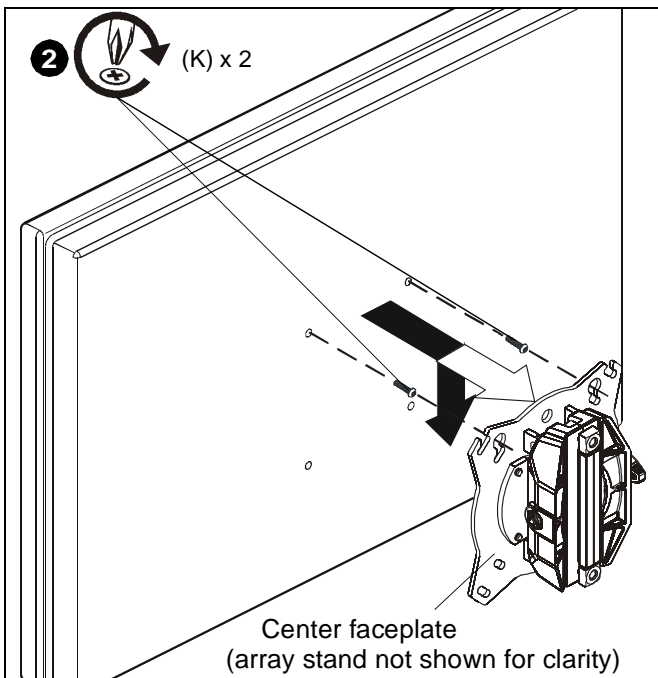

Figure 5
2. Using Phillips screwdriver, carefully install two M4 x 12mm Phillips pan machine screws (K) into the *upper* mounting holes on the display. Thread screws completely into display, then back out 3 complete turns. (See Figure 5)
3. Pick up and align display so that screws (K) (installed on the back of the display in the previous step) fit into the mounting holes on the faceplate. Lower the display firmly into place. (See Figure 5)